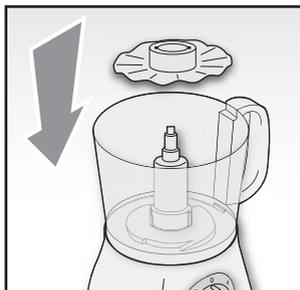

Fig. 6
Install the dedicated accessory (H) on the blade support (D) (Fig 6). The fissures on the center of the blade must be positioned upwards and coincide with the notches on the blade support. Press the blade on the blade support (Fig. 6).